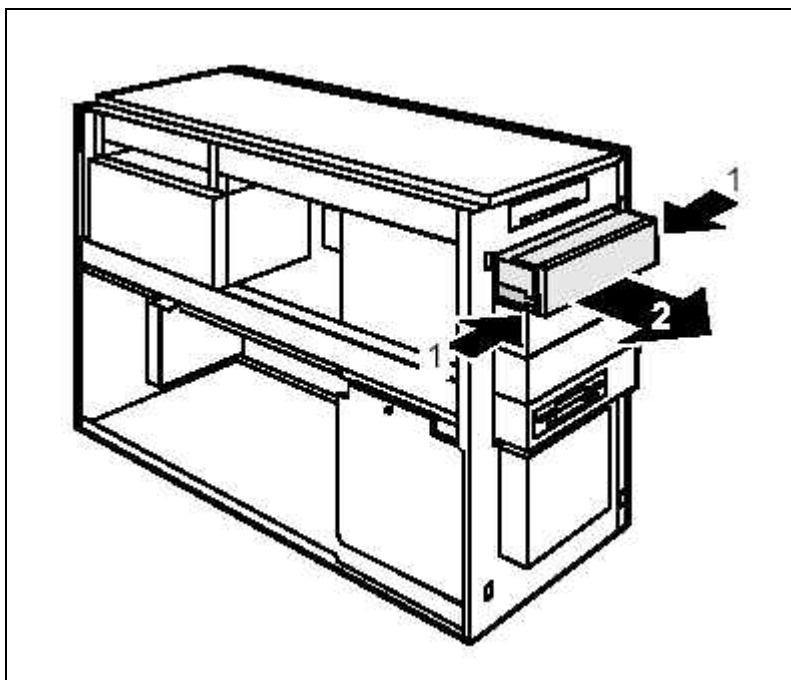

Fig. 52: Replacing the drive
5. Press the rails (1/ Fig. 52 / p. 97) together and pull the drive out of the casing (2/ Fig. 52 / p. 97).